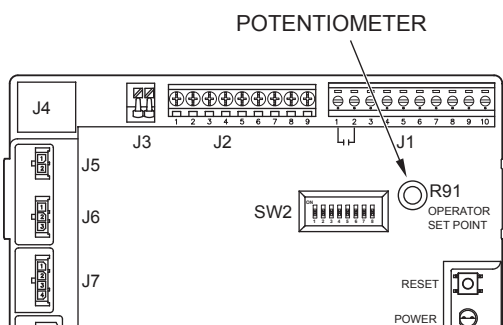

Figure 1. PIM Potentiometer Location
5. Adjust the high limit setting using the setpoint potentiometer on the PIM (see **Figure 1**). Using a small flat-bladed screwdriver, slowly turn the setpoint potentiometer to a lower setting.